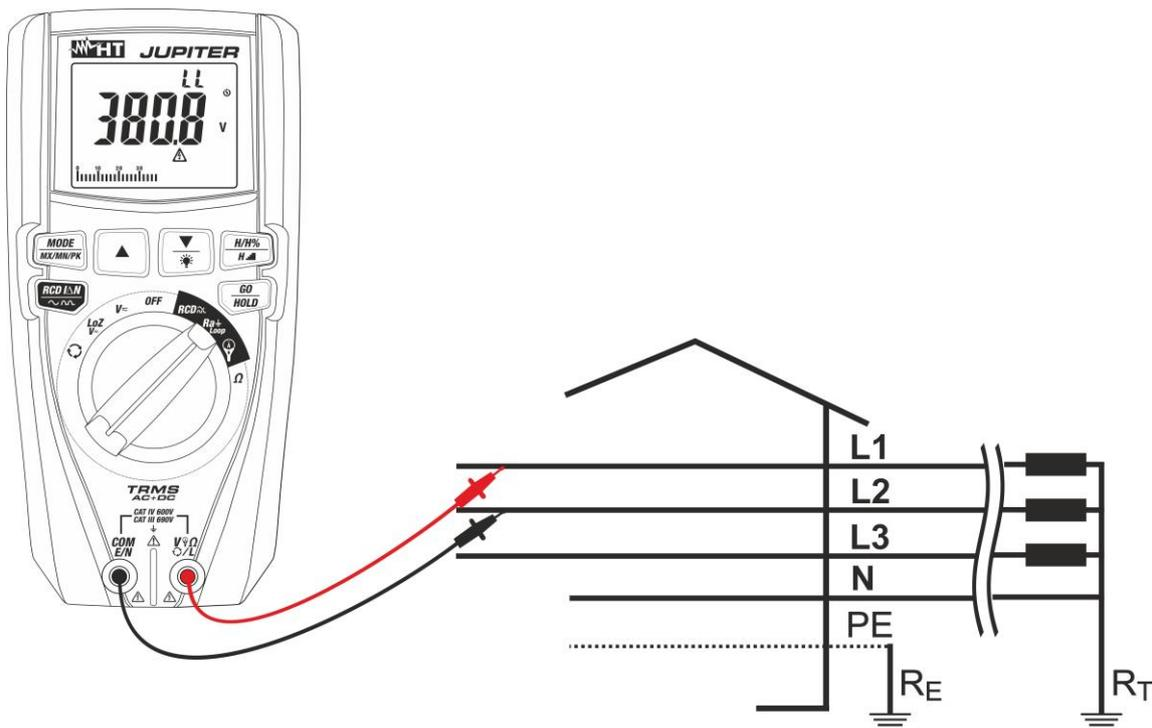

Fig. 27: Use of the instrument for measuring Loop L-L impedance with leads
9. **For Loop L-L measurements**, in case measuring leads are used, insert the red conductor into input terminal **V Ω L** and the black conductor into input terminal **COM/E/N** and connect the instrument to the system to be tested (see Fig. 27). The value of phase-to-phase voltage is shown on the display